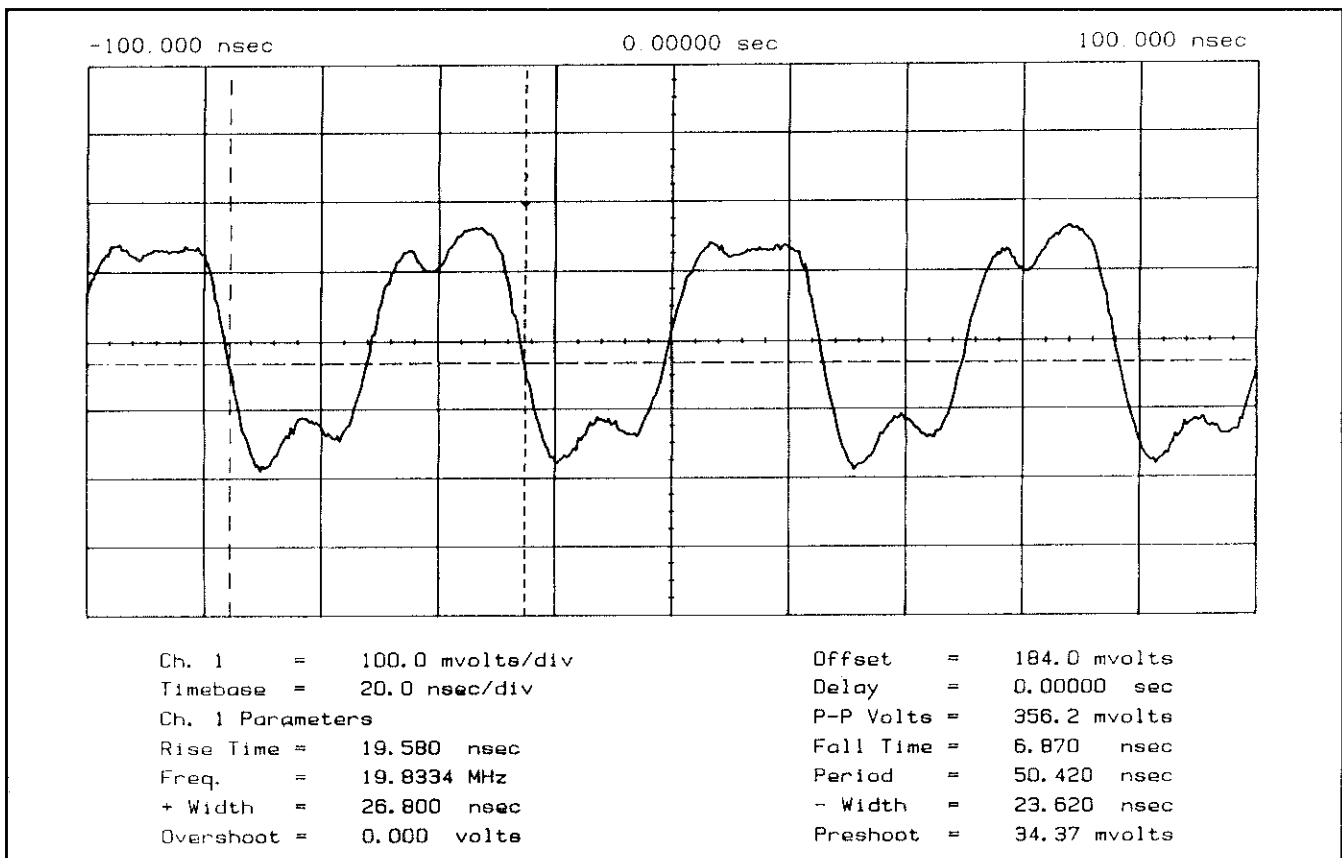

Figure 7H-1. Waveform of 20 MHz Signal at A8U10(9)
- A. Verify that a 20 MHz signal exists at A8U10(9) as shown in *Figure 7H-1*. If not, check the A1 board.